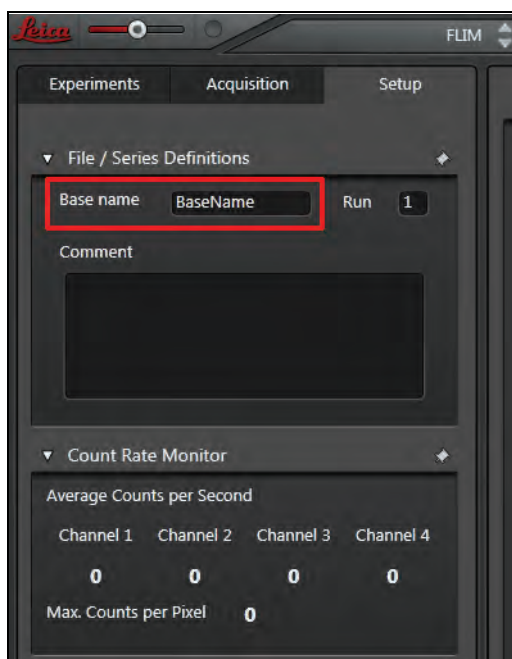

Figure 136: Defining FLIM image names
2. Enter the name of the FLIM data file used in SymPhoTime in the **Base name** field in the pull-down menu **File/Series Definitions (Figure 136)**.